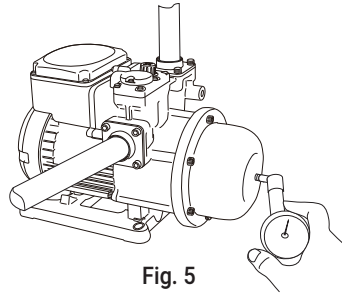

Fig. 5
4. Pressure tank air charge should be checked at regular intervals of every 6 months and after the pump has not been used for a prolonged period. To check the Pressure Tank air pressure, turn off power, open a tap on the discharge line to release pressure from the pump, unscrew the black plastic cover and apply an accurate pressure gauge to the valve as shown in Fig 5.